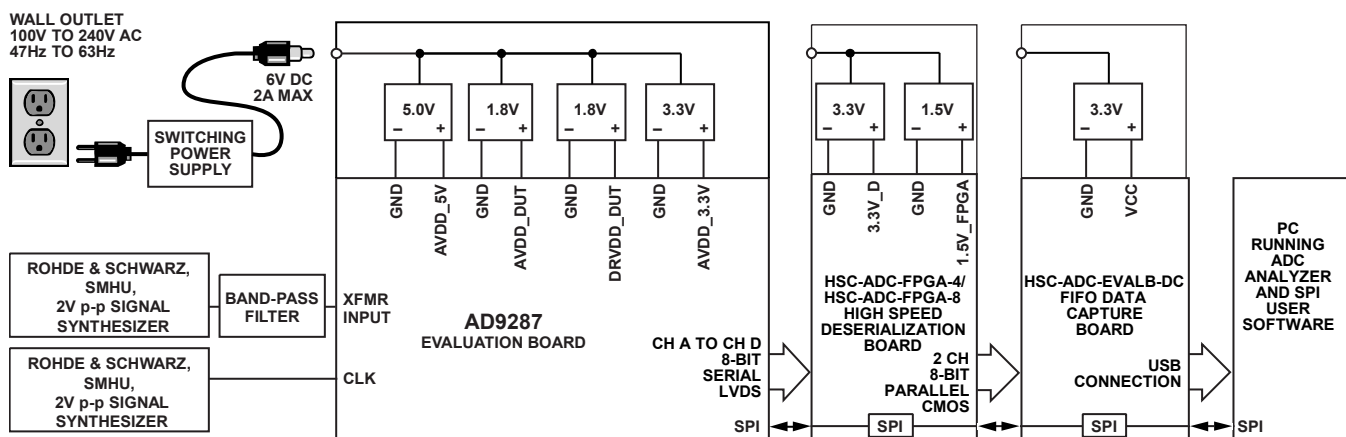
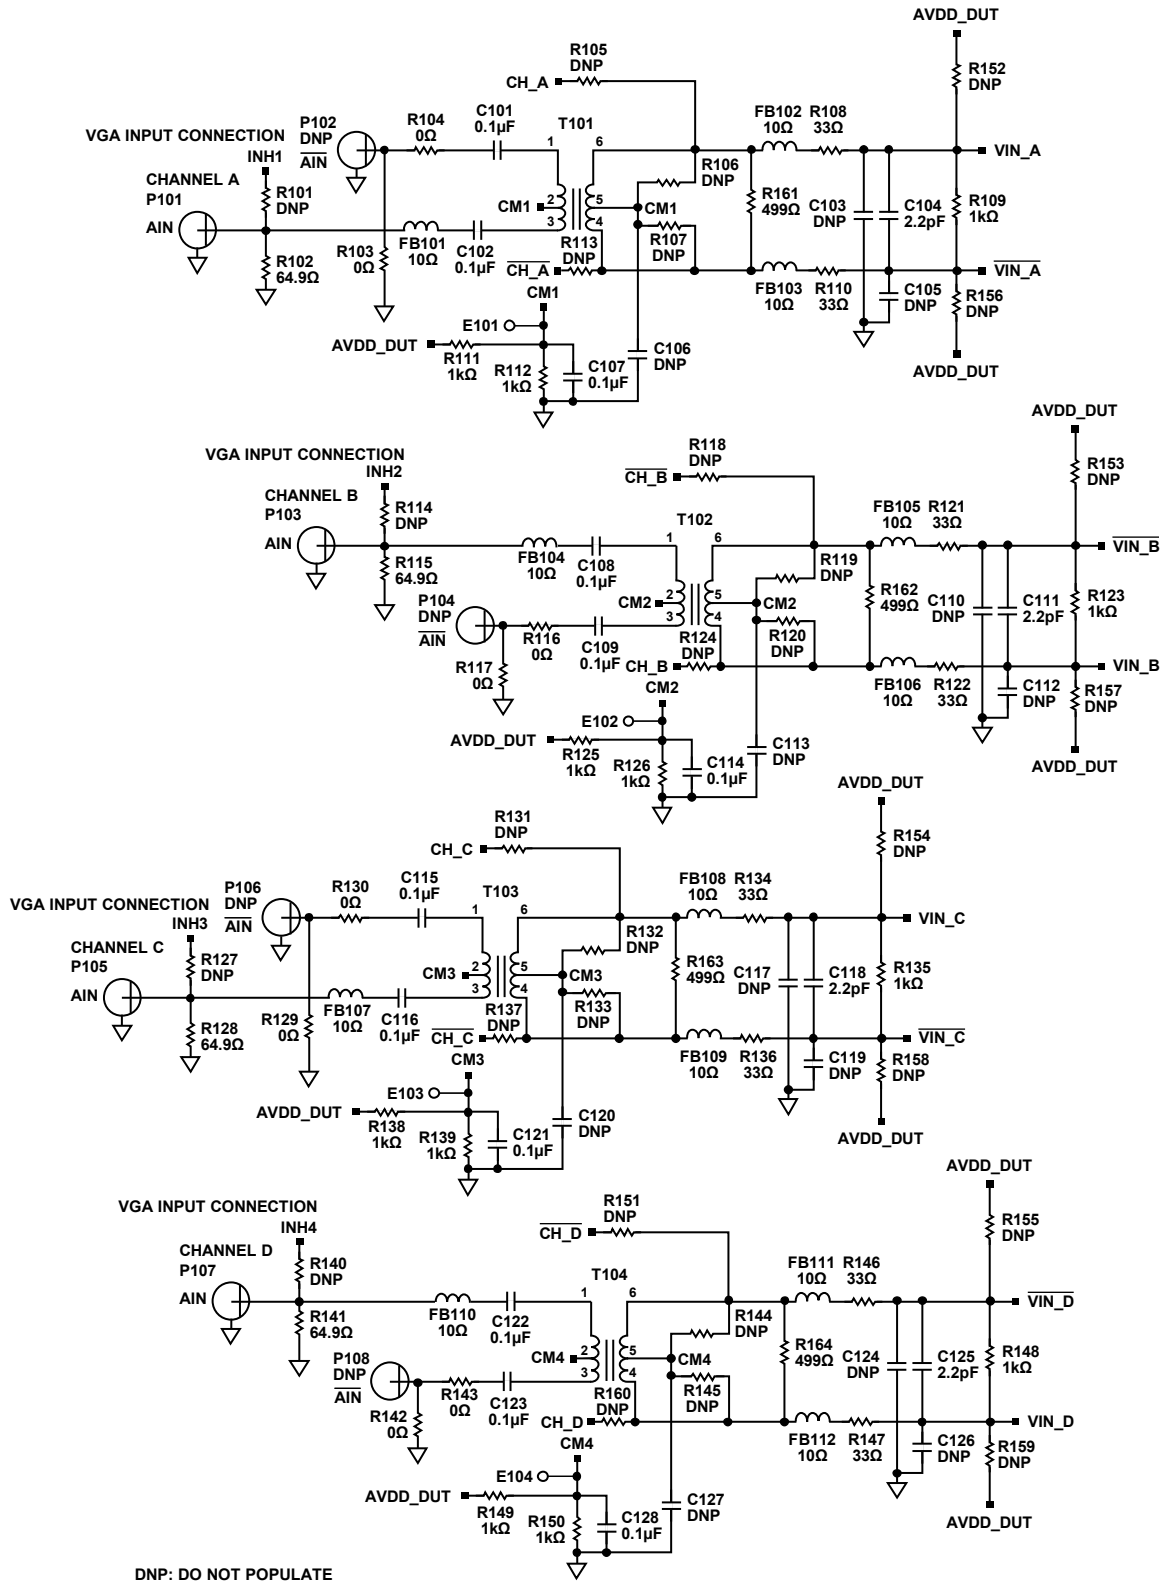

Figure 60. Evaluation Board Connection
Figure 62. Evaluation Board Schematic, DUT Analog Inputs
The AD9287 evaluation board provides all of the support circuitry required to operate the ADC in its various modes and configurations. The converter can be driven differentially using a transformer (default) or an AD8332 driver. The ADC can also be driven in a single-ended fashion. Separate power pins are provided to isolate the DUT from the drive circuitry of the AD8332. Each input configuration can be selected by changing the connection of various jumpers (see Figure 62 to Figure 66). Figure 60 shows the typical bench characterization setup used to evaluate the ac performance of the AD9287. It is critical that the signal sources used for the analog input and clock have very low phase noise (<1 ps rms jitter) to realize the optimum performance of the converter. Proper filtering of the analog input signal to remove harmonics and lower the integrated or broadband noise at the input is also necessary to achieve the specified noise performance.
See Figure 62 to Figure 70 for the complete schematics and layout diagrams demonstrating the routing and grounding techniques that should be applied at the system level.
- **D + x, D - x:** If an alternative data capture method to the setup shown in Figure 60 is used, optional receiver terminations, R206 to R211, can be installed next to the high speed back-plane connector.